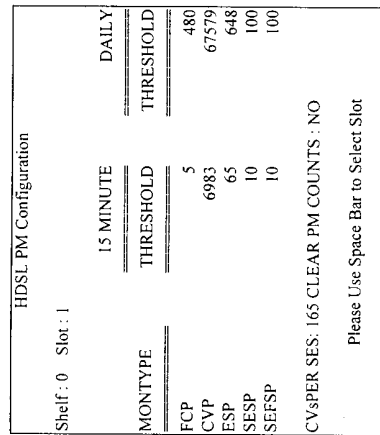

Fig 3-20 HDSL PM Configuration Screen
2. Use arrow keys or number keys to select HDSL PM Configuration. Press the Enter or Return key. The HDSL PM Configuration screen is shown in Figure 3-20.